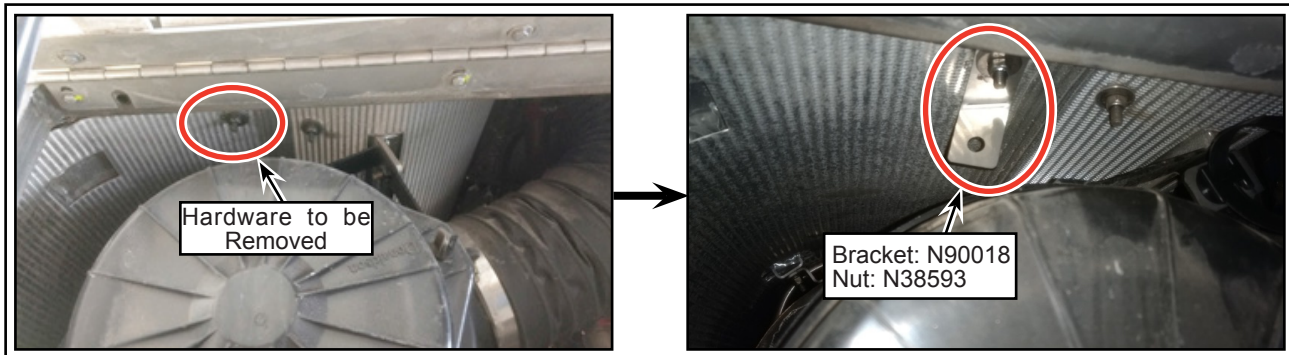

Figure 15 - Typical View of New Bracket Installed
- 1.23. Remove and discard the hardware at the location shown (see Figure 15).
- 1.24. Install the new bracket N90018 with new nut N38593 and fix the mount fire tree N57807 to bracket (see Figure 15).